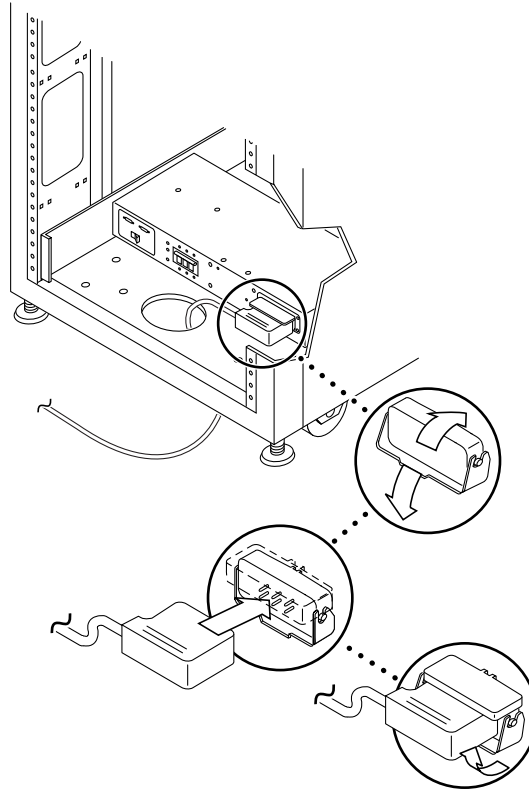

FIGURE 4-3 Connecting the Power Cord
3. Connect the square female end of a power cord to the rear power sequencer connector (FIGURE 4-3).